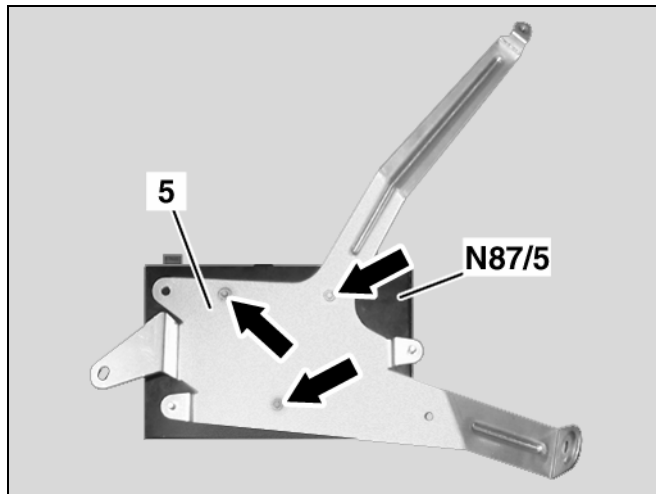

Figure 6
2. Mount the SDAR control module (N87/5, Figure 6) to the bracket (5, Figure 6) secure with three M5 hex nuts (arrows) included with installation kit. Be sure to orient the SDAR control module with respect to the bracket as seen in Figure 6.